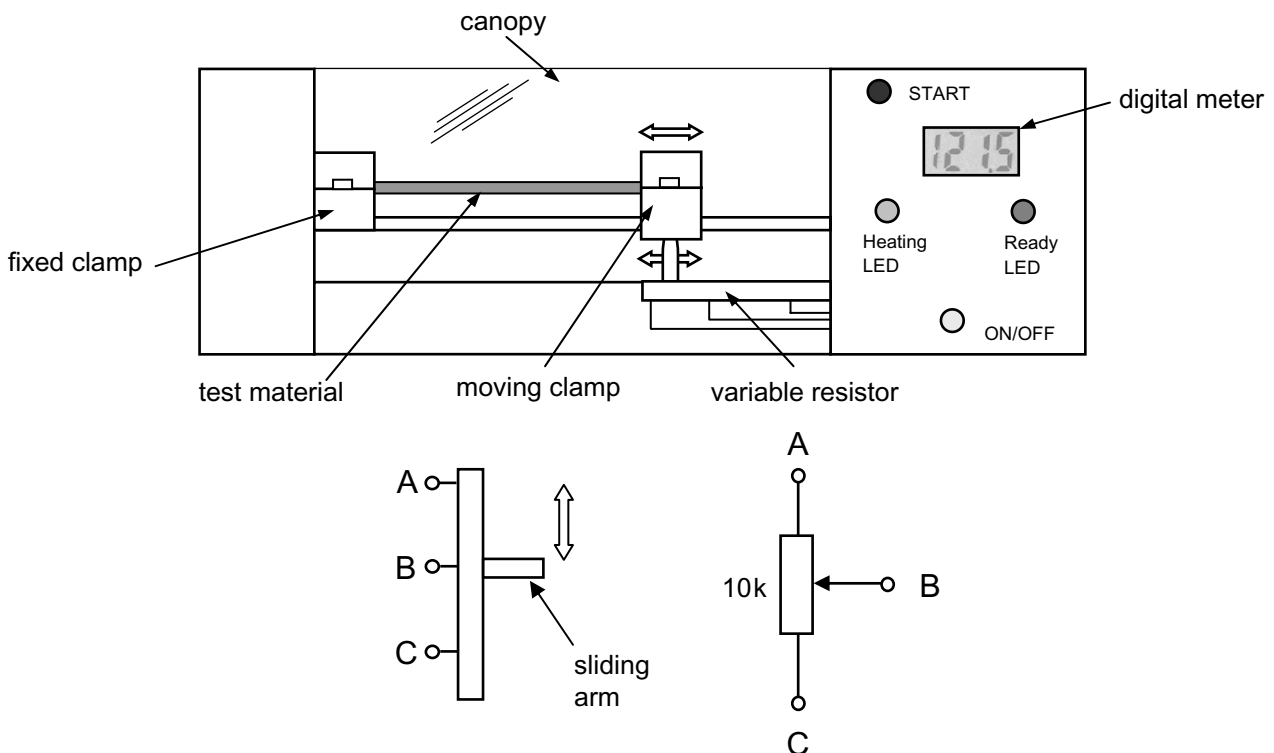

Fig. 1(c)
- (i) Sketch a graph with labelled axes to show how the resistance (measured between terminals A and B) changes as the sliding arm in Fig. 1(c) is moved from the mid-position shown towards terminal A. [2]
- (ii) With the aid of a circuit diagram show how the variable resistor shown in **Fig. 1(c)** could be connected to provide an output voltage that increases as the sliding arm is moved towards terminal A. [1]
- (iii) The voltage at terminal B in **Fig. 1(c)** is to be displayed on a digital meter. The maximum movement of the sliding arm of the variable resistor is 15 mm which produces a change in voltage at terminal B of 50 mV for every 0.1 mm moved. It is required that the voltage displayed by a digital meter, in millivolts, should represent the distance travelled by the sliding arm of the variable resistor i.e. the digital meter should display 1 mV when the wiper has moved by 0.001 mm. Determine the gain of an amplifier required to be connected between terminal B on the variable resistor and the digital meter to meet this requirement. [3]